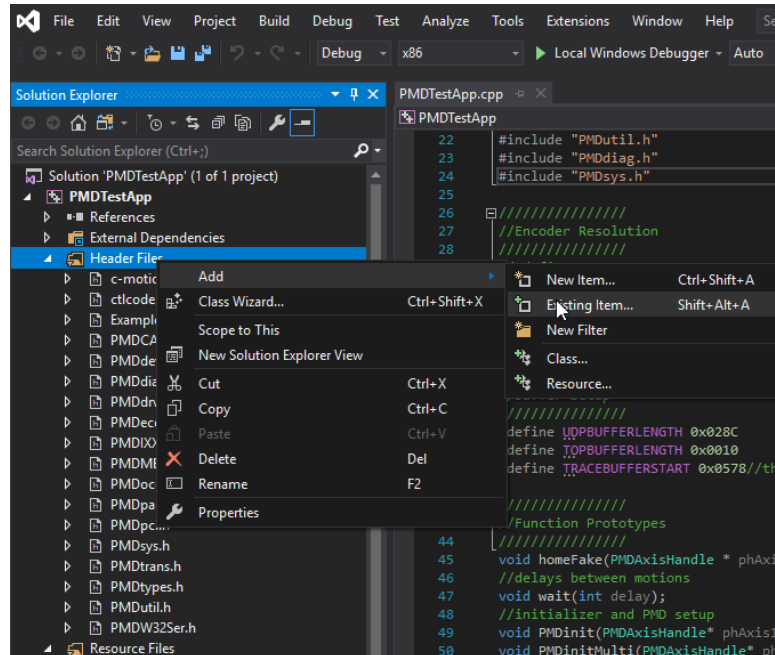

Figure 32 - VS2019 Adding Header Files
- 3) Right click the “Header Files” folder in the solution explorer view and select “Add”, then “Existing Item...” and select all the files from the “Include” directory in the project folder per Figure 32 - VS2019 Adding Header Files